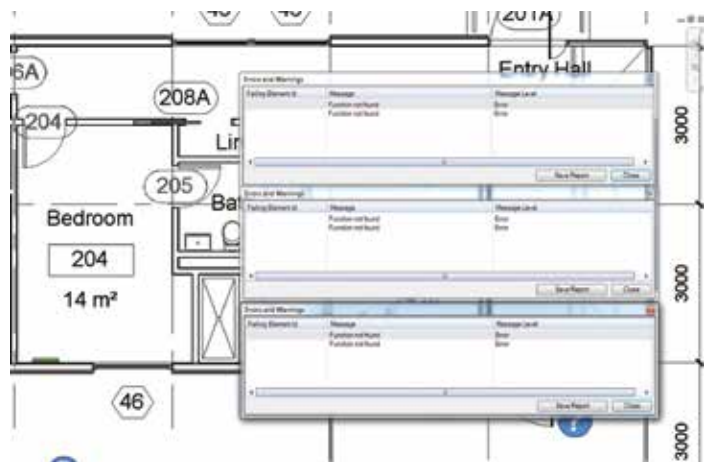

Figure 8: The Errors and Warnings screen gets rebuilt every time
- The Errors/Warnings screen doesn't refresh, but gets built with every test run (Figure 8).